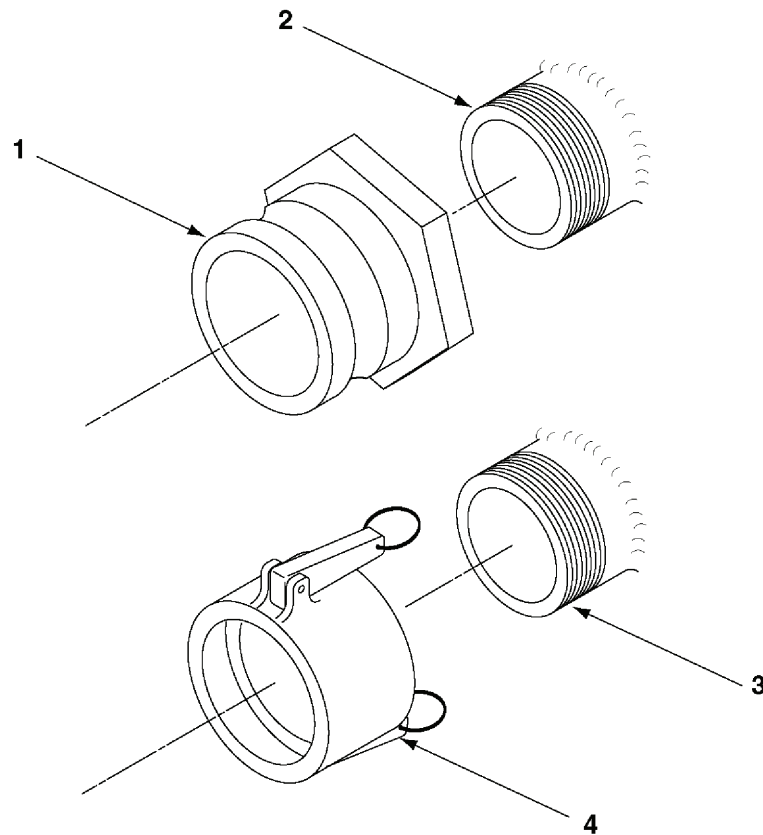

Figure 1. Camlock Replacement
2. Unscrew camlock fitting (figure 1, 1) or (4) from vessel fitting (2) or (3).